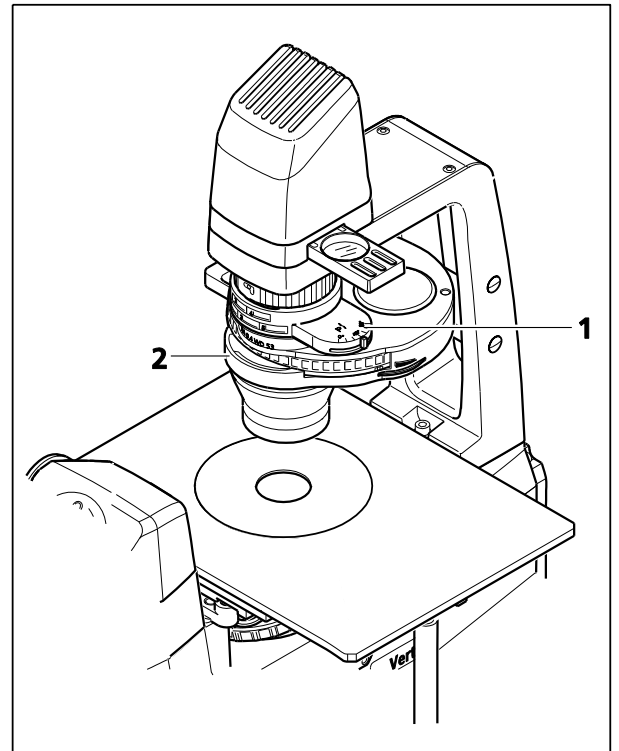

Fig. 4-13 Setting Bright Field
- Slide polarizer DL (Fig. 4-13/1) on the condenser (Fig. 4-13/2) in the light path.